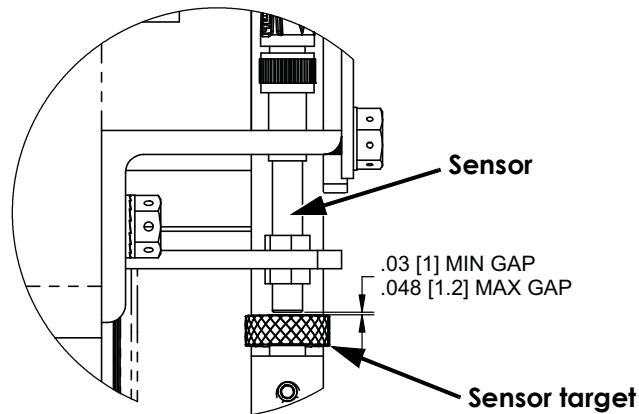

Figure 5: Sensor Alignment
- Align sensor to sensor target. Adjust the sensor target to a minimum gap of 0.03" and a maximum gap of 0.048". Do not adjust the sensor. See Figure 5.